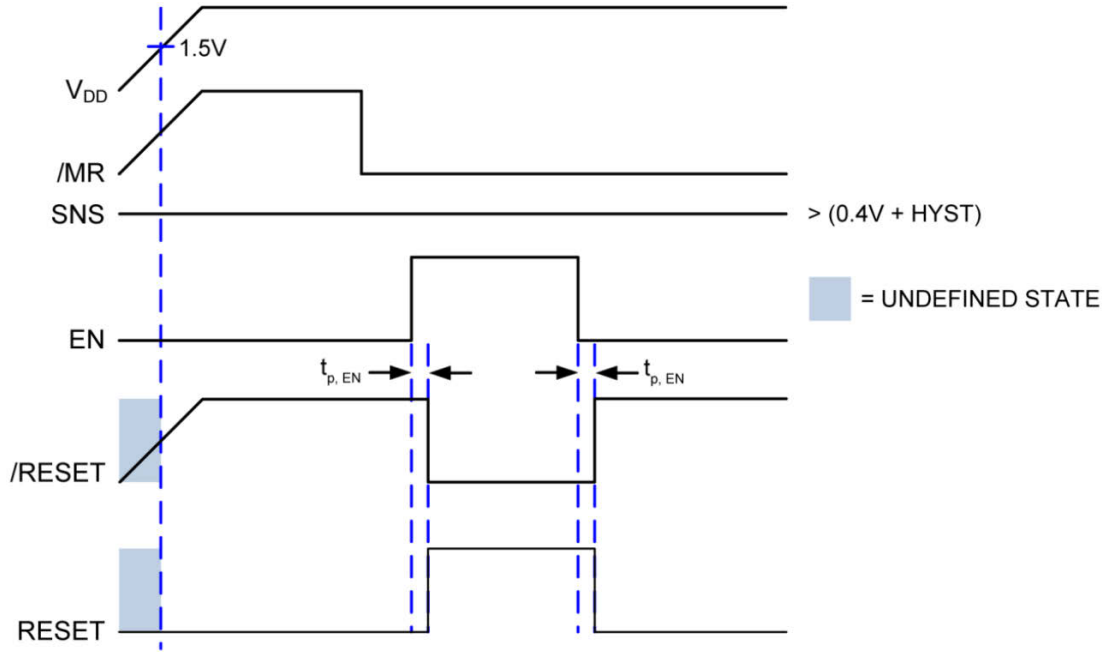

Figure 3. Hold and Propagation Delay from EN to RESET and /RESET
The enable (EN) pin feature is only available in the MIC2793 option and has an internal pull-up of 90k $\Omega$  resistor to VDD. A logic high signal on EN pin enables the reset logic outputs, while a logic low signal disables the reset outputs. See Figure 3 in the Timing Diagrams section for more information.